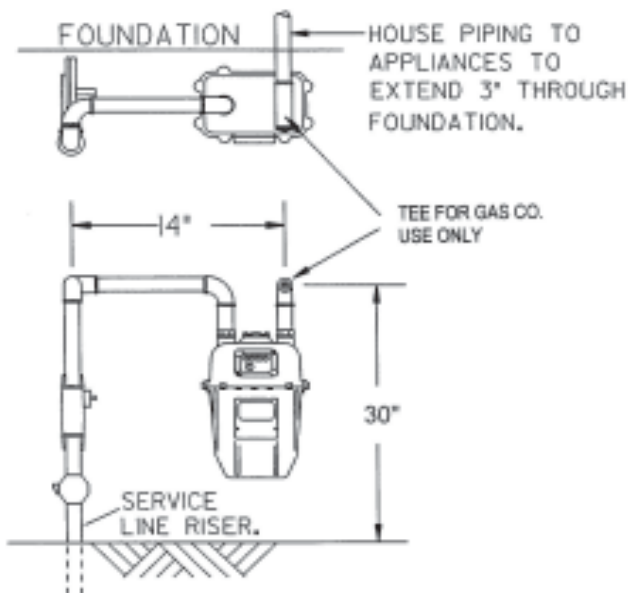
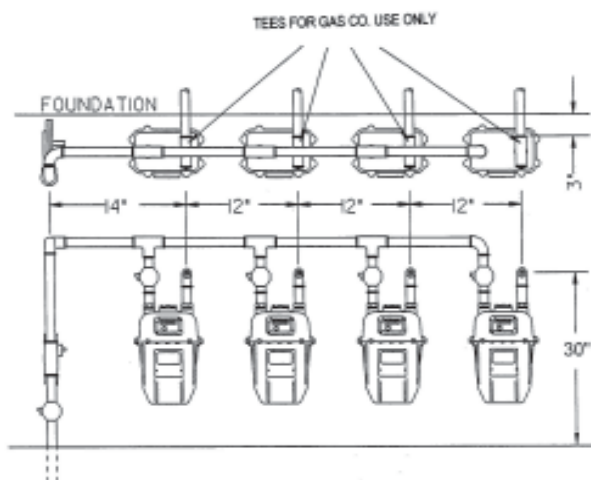

FIGURE 1
FIGURE 2
3. SERVICE CONNECTIONS: All house piping should be extended to a point 14 inches on the right-hand side of the location provided for the gas service line and 30 inches above ground level. For multiple meter installations where two or more house lines terminate at a multiple meter set, they should be spaced not less than 10 inches nor more than 12 inches apart for each additional meter location and the fuel lines should extend 3 inches through the foundation. (See Figure 1, Page 27 and Figure 2, Page 28)